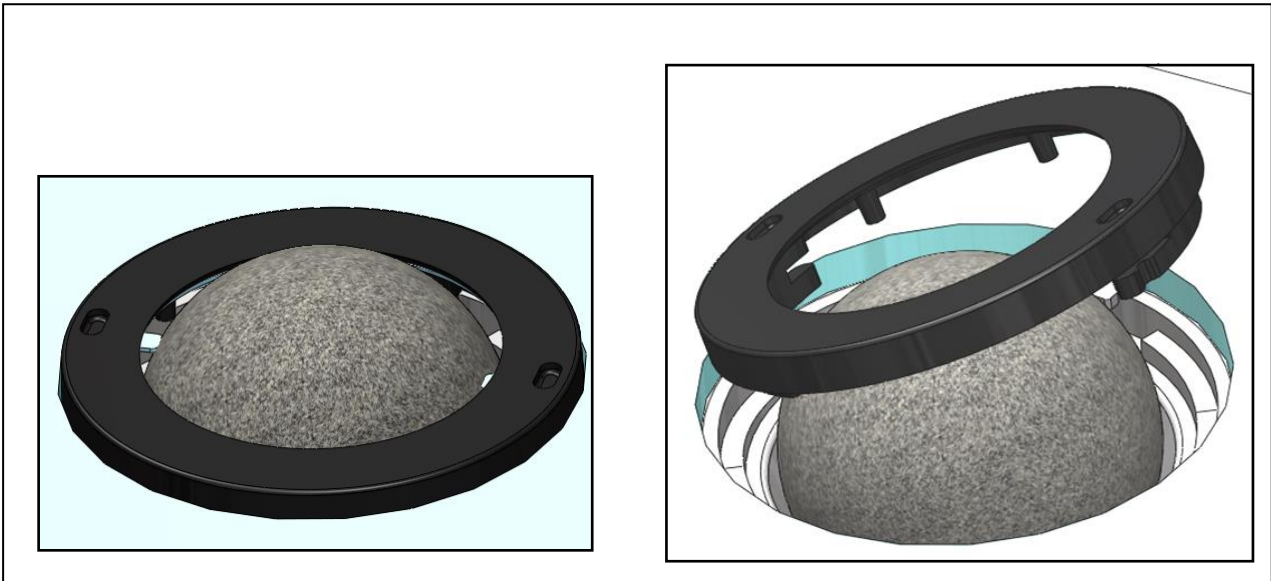

Figure 9 – Removing the ring
- Once the removable ring has been successfully rotated and unlocked, use your fingers to carefully remove it from the module - see figure 9.